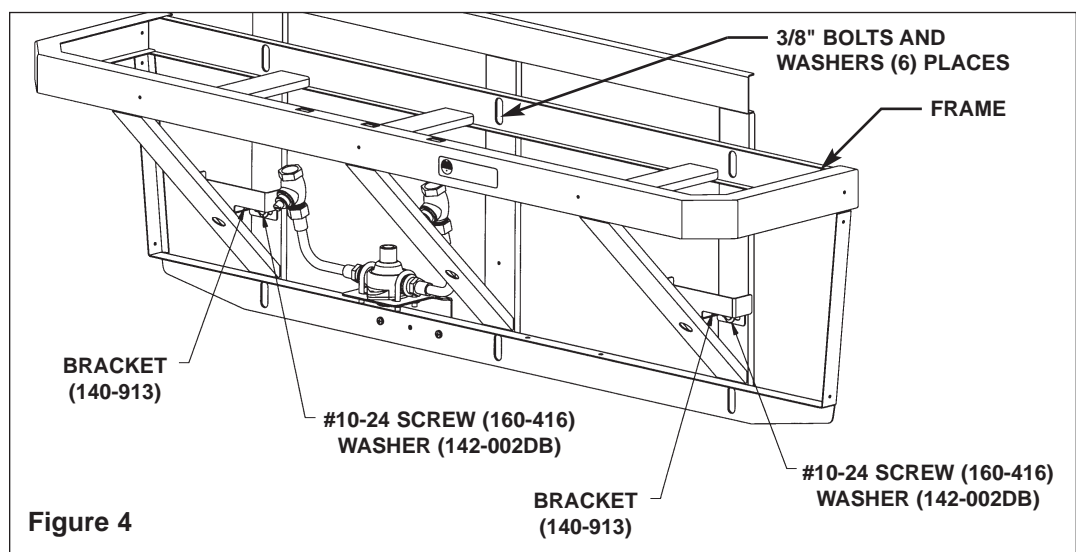

Figure 4
2. Attach the battery box bracket to the frame at two places using the #10-24 screw and washer provided (see Figure 4).
5. Once you have positioned the frame such that it is level and flat against the wall or shimmed, use the 3/8" bolts and washers to mount the frame to the wall (see Figure 4).
5. HOT/COLD VERNATHERM™ OPTION ONLY: Attach the 1/2" tee to the Vernatherm™ assembly using a thread sealer (see Figure 4 on page 7).
6. Attach the male end of the 1/2" flexible hose to the 1/2" tee using a thread sealer. Attach the female end of the 1/2" flexible hose to the battery box using the fiber washer attached to the hose (see Figure 4 on page 7).
7. Attach the 1/4" supply tubes from the sprayhead to the battery box's 1/4" connector. Make sure the red color supply tube goes to the left side battery box and the green color supply tube goes to the right side battery box (see Figure 4 on page 7).